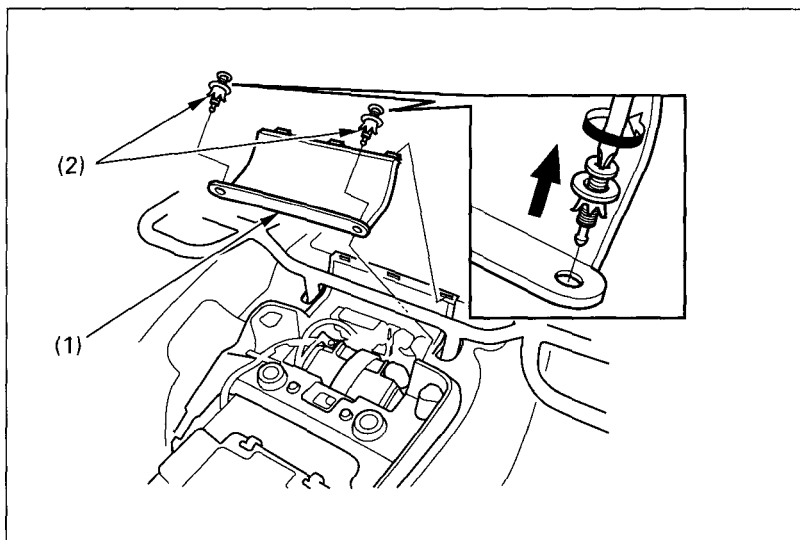

Fig.4-18
3. To remove the rear fender lid ( 1 ), remove the clips ( 2 ) ( Fig. 4-18 ).